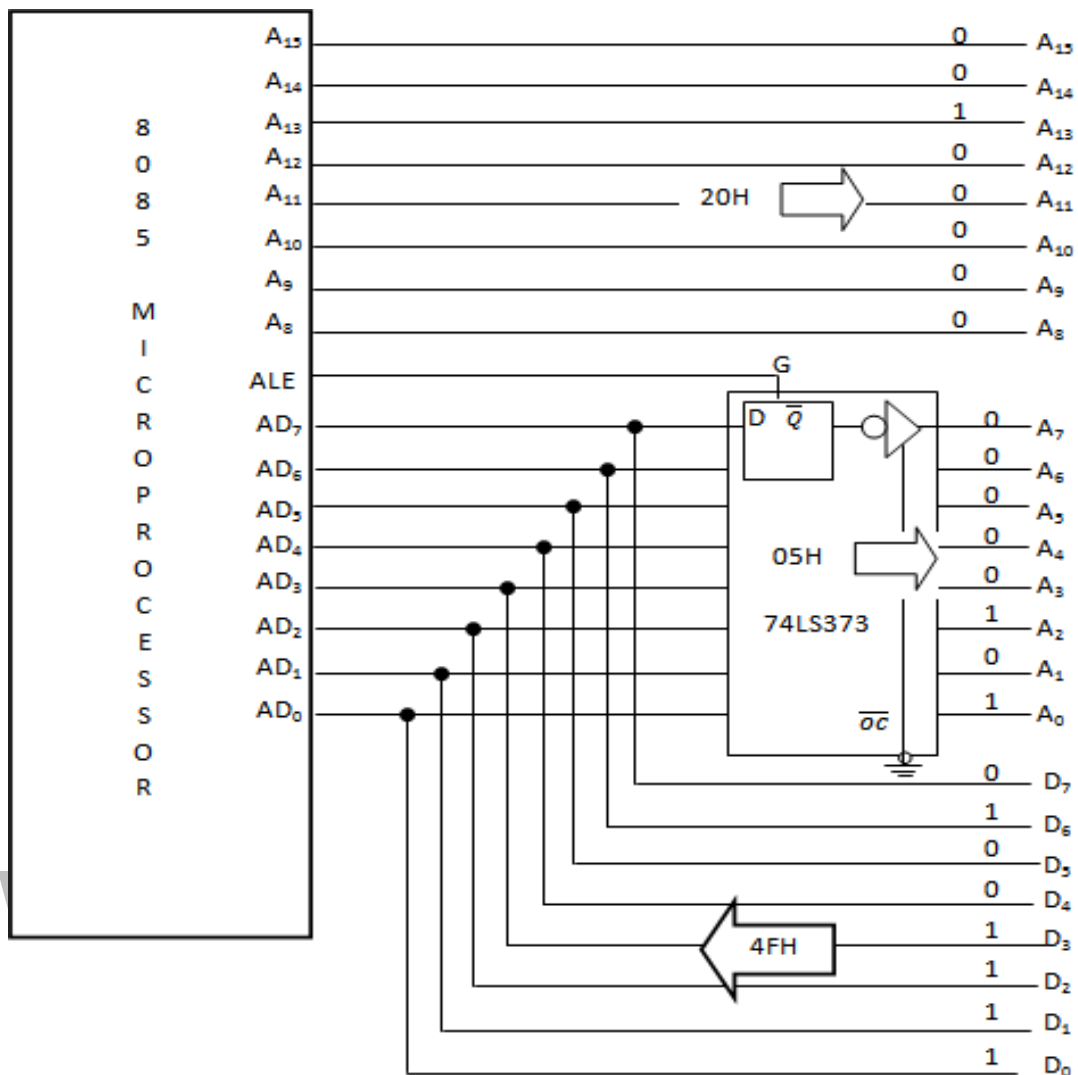

Figure 1.4.3 Schematic of Latching Low-Order Address Bus
- Figure 1.4.3 shows the RD (Read) as a control signal. Because this signal is used both for reading memory and for reading an input device, it is necessary to generate two different Read signals: one for memory and another for input. Similarly, two separate Write signals must be generated.
- This signal is indeed with RD and WR signals by using the 74LS32 quadruple two-input OR gates, as shown in Figure 1.4.3.